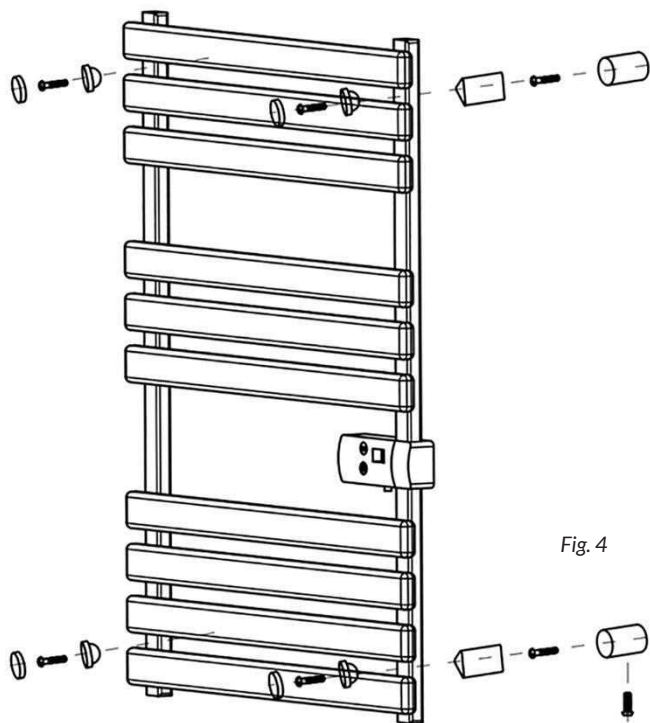

Fig. 4
3. Fix 4 of the „Inner Fixings” and 4 of the „Front Fixings” on the unit with 4 ST4.0x20 screws. See Fig. 4
Cover the 4 caps on the „Front Handles”. See Fig. 4